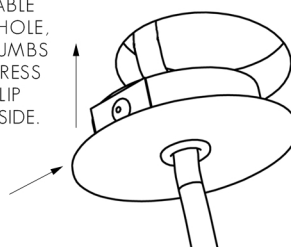

FIG. 7 - ENSURE DIFFUSER IS MOUNTED SECURELY
6. CLIP DIFFUSER INTO EXTRUSION, ENSURING A FIRM CONNECTION (SEE FIG. 7).